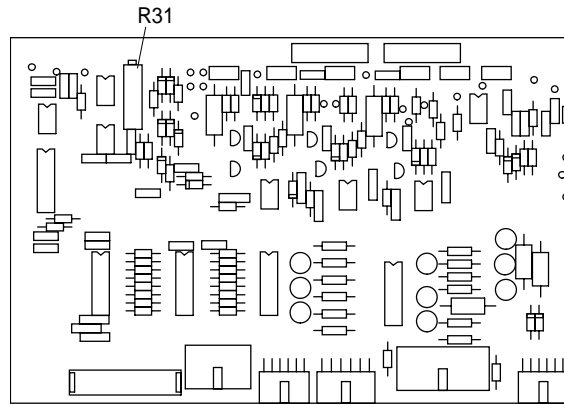

Figure 6-8. A19 Multiband Controller PCB (54137A and 54147A)
- Adjust A19R31 on the multiband controller (Figure 6-8) to move the oscilloscope trace more positive until the trace oscillates and/or the 541XXA Unleveled LED lights. Now adjust A19R31 back two turns (trace more negative).